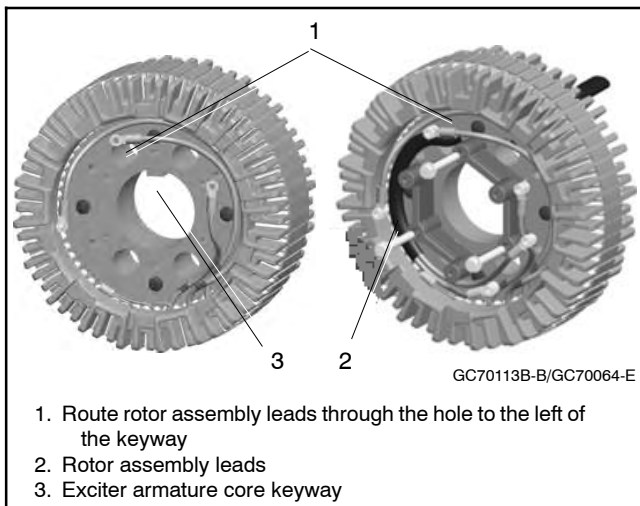

Figure 16-8 Exciter Armature/Rotor Leads
5. Install exciter armature with leads to the outside over service tool Y-5803. Route the rotor leads through the hole to the left of the keyway in the exciter armature core. See Figure 16-8.